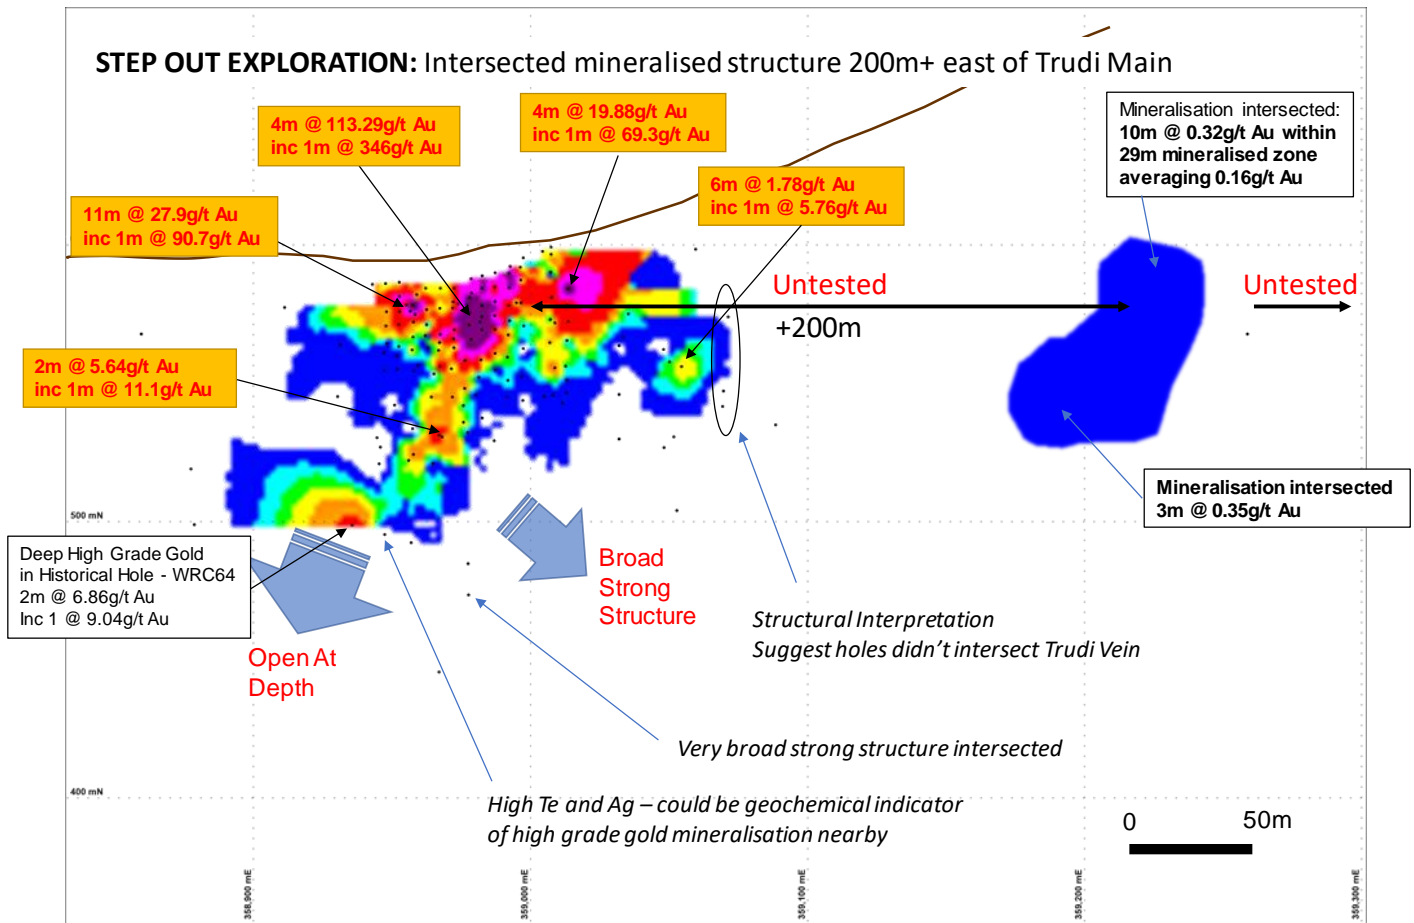

Figure 2: Long projection, looking north, showing the Trudi Main area and possible extensions to the east.
- Test the east strike extensions of the Trudi vein up to 700m beyond the 5m grid drilling (Figure 2) where 3 possible positions for the vein have been interpreted to extend under a hill consisting of rocks now interpreted to be a cover unit.
- Test for depth extensions to Trudi high grade mineralisation (Figure 2).